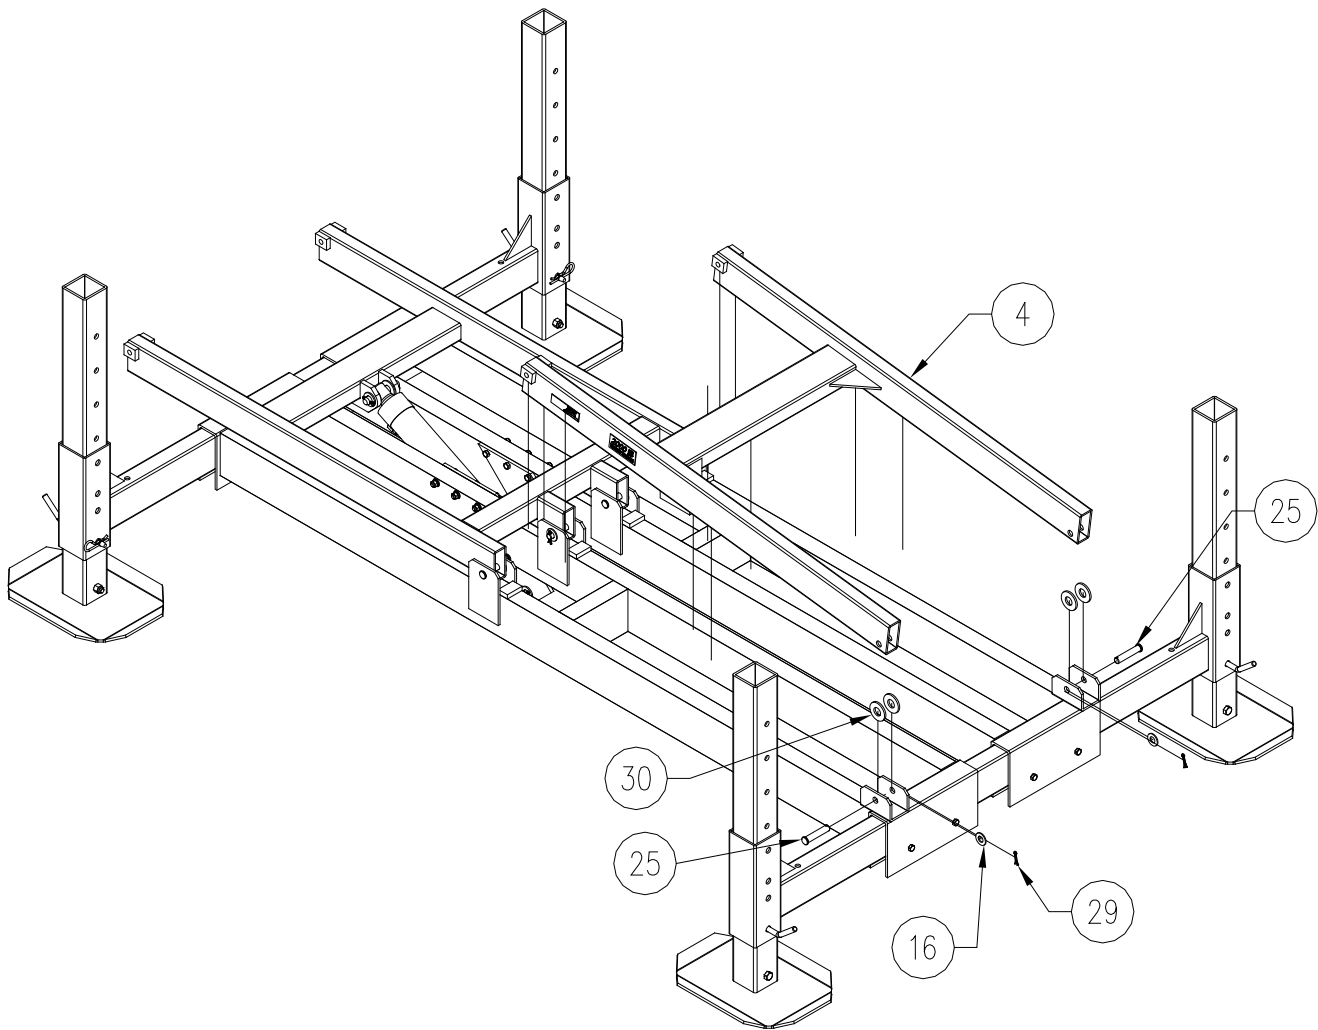

Figure 3-5.
1. **Refer to Figure 3-5.** Install front lift arm (4) to the main frame. Before inserting clevis pin (25), install nylon washer (30) between the main frame and the main frame liftarm support. Insert clevis pin (25) through the main frame and hole in the liftarm. Install flat washer (16) and cotter pin (29) on each clevis pin. Secure clevis pin by spreading end of cotter pin apart and bending around clevis pin.